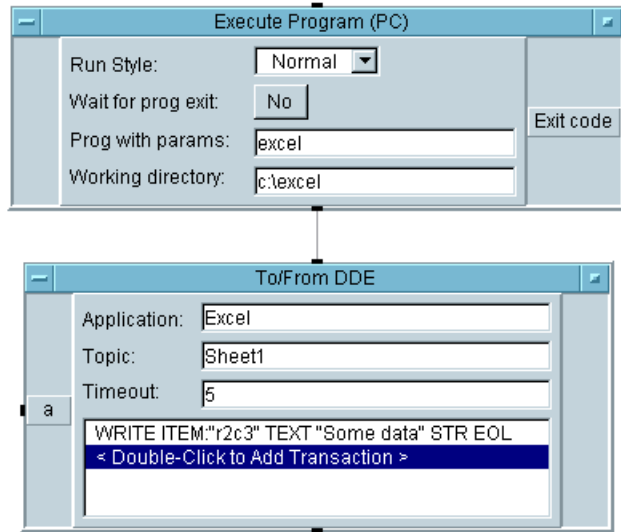

Figure 4-30. Execute PC before To/From DDE
If the executable file's directory is not in your PATH, use an Execute Program (PC) object before the To/From DDE object to run the application program, as shown in Figure 4-30.